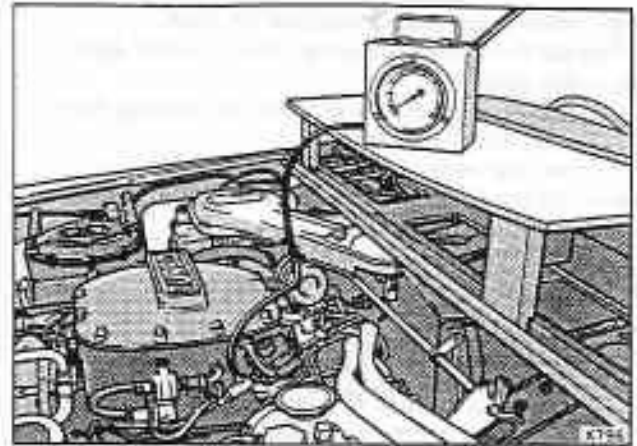

Fig. K11-35 Testing the fuel pressure
1. Unscrew the blanking plug and connect an accurate 0 bar to 1,03 bar (0 lbf/in² to 15 lbf/in²) pressure gauge to the fuel pressure tapping point (see fig. K11-35).
4. Release the regulator adjusting screw lock-nuts (see fig. K11-35).